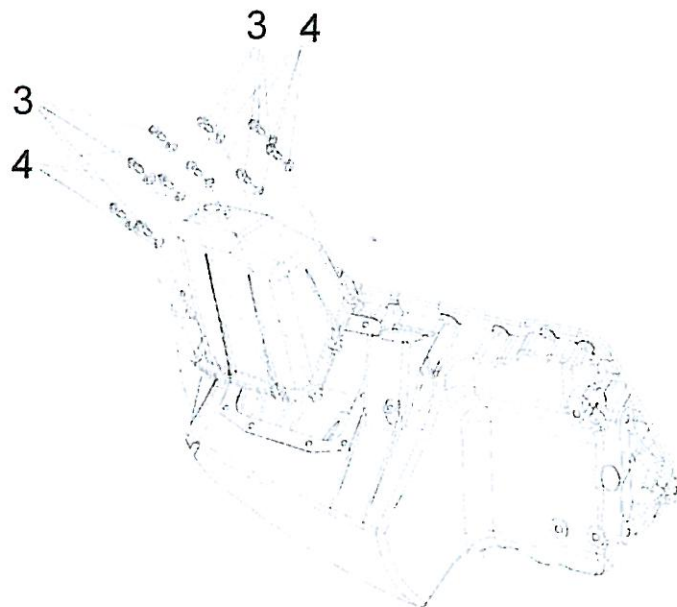

Bild 2 / Fig. 2
5. Remove the bolts and washers of the pre-separator. See Fig. 2.
6. Remove the pre-separator. See Fig. 2.